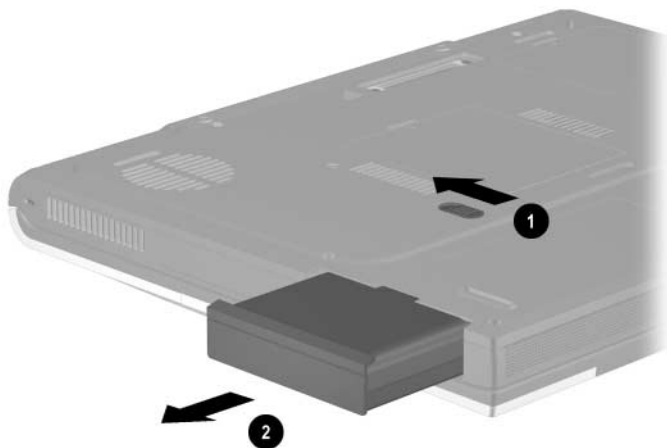

Figure 5-2. Removing the Battery Pack
- b. Slide and hold the battery release latch ❶ toward the back of the computer (Figure 5-2).
- c. Use the notch in the battery bay to slide the battery pack out of the battery bay ❷.